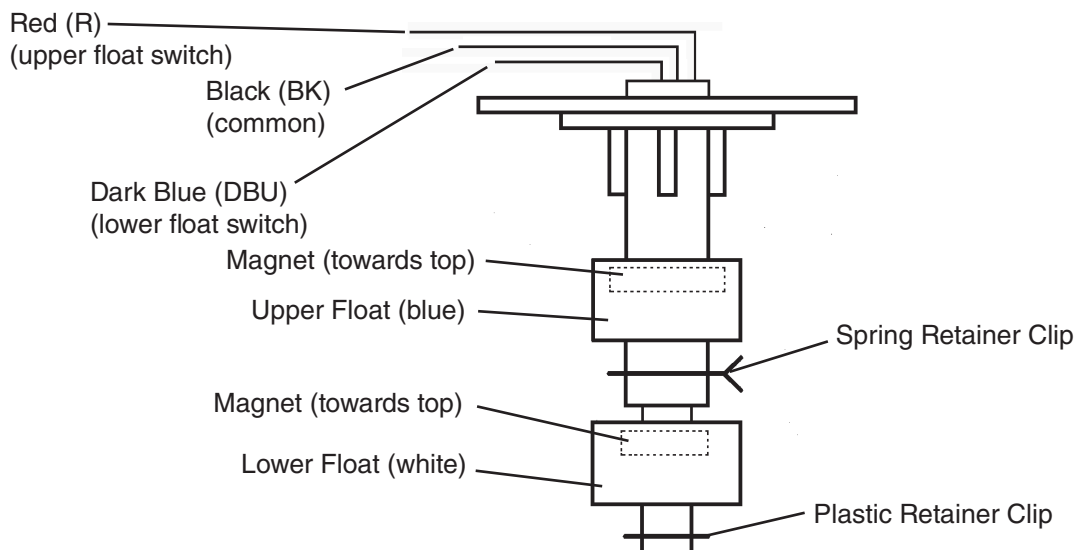

Fig. 6
- 4) While not necessary, the floats can be removed from the shaft during cleaning. If you remove them, note that the blue float is on top (UF/S) and the white float is on bottom (LF/S). The floats must be installed with the magnets inside them towards the top of the switch. See Fig. 6. Installing the floats upside down will affect the timing of F/S operation.